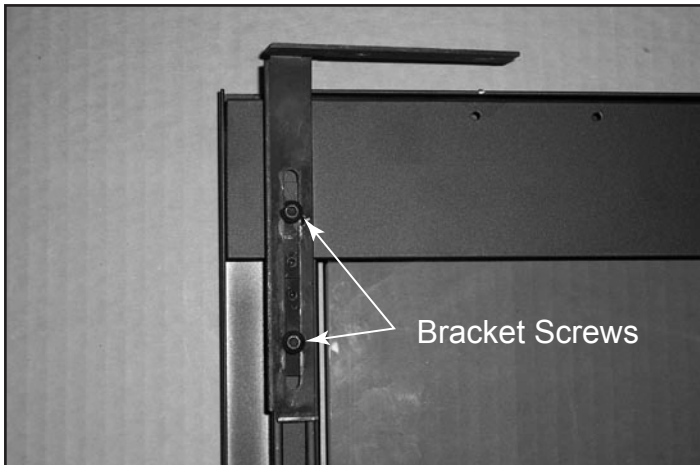
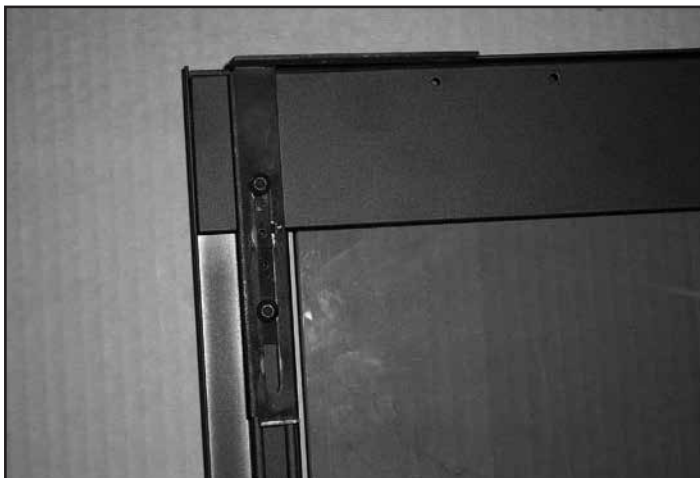

Figure 1
Figure 2
3. Loosen the two screws holding each top bracket in place with the allen wrench provided. See Figure 1. Make sure the top brackets are below the top of the door frame. See Figure 2.